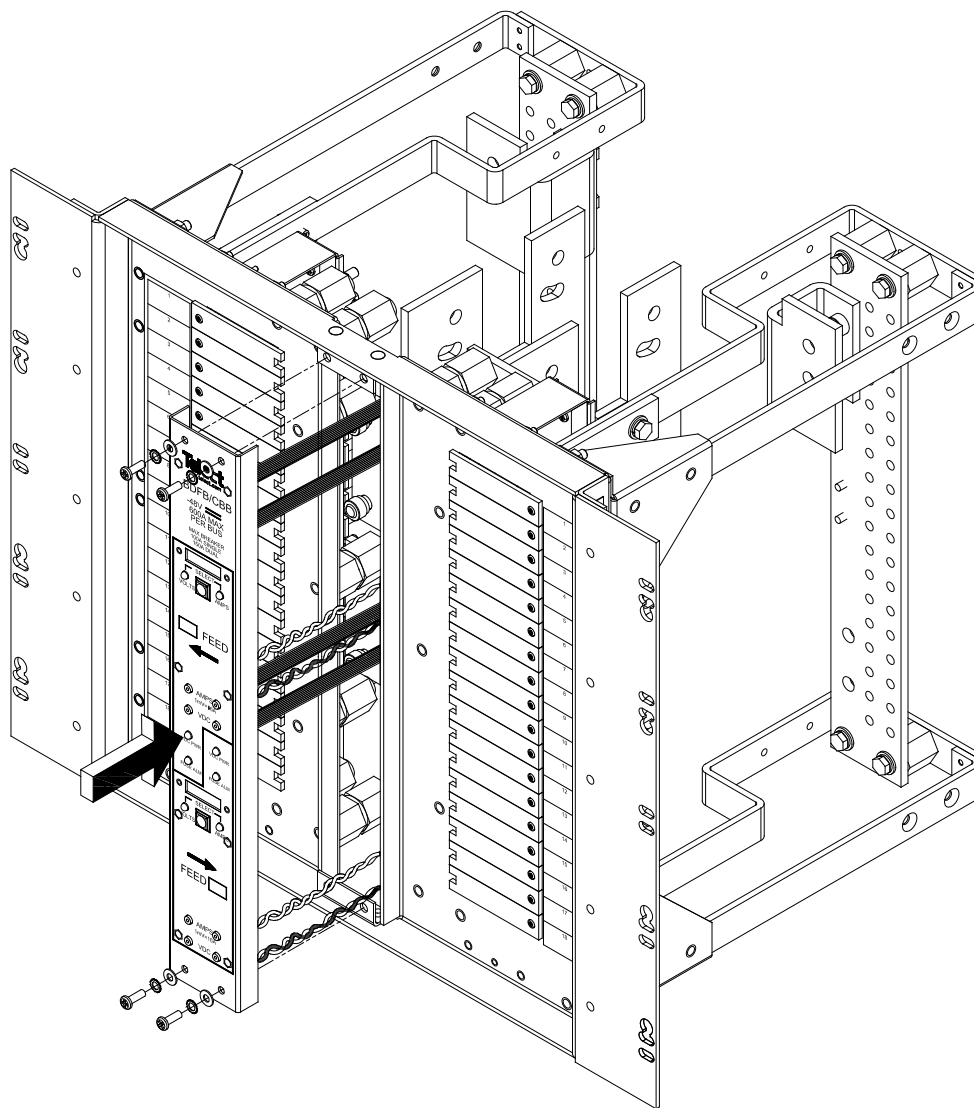

Figure 5 - Installing Metering Panel
6. Secure the meter panel to BDFB / BDCBB using the screws and washers provided with metering panel. (See Figure 5.)